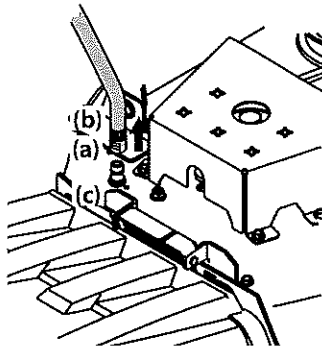

Figure 29
3. Pull back the lock collar (a) of the nozzle adapter (b) and push the nozzle adapter onto the deck wash nozzle (c). Release the lock collar to lock the nozzle adapter on the deck wash nozzle. See Figure 29.